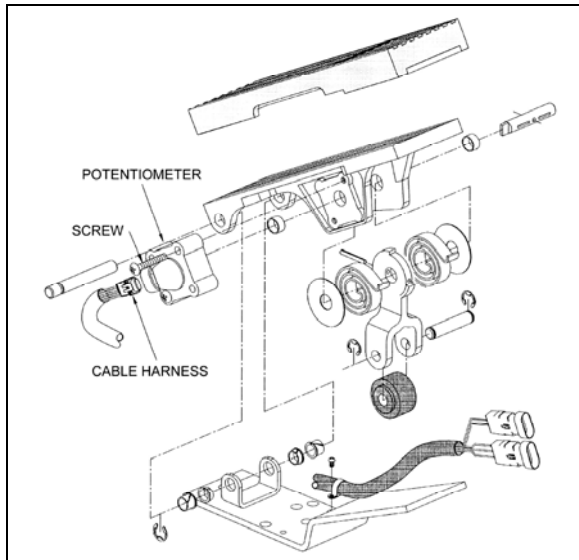

FIGURE 16: ELECTRONIC FOOT PEDAL ASSEMBLY 03035
3. Discard potentiometer (Figure 16).
4. Position new potentiometer. Press potentiometer onto the potentiometer shaft, matching cutouts in shaft to drive tangs of potentiometer. Apply hand pressure until potentiometer has bottomed out in housing. Reinstall screws (Figure 16) and tighten just enough to secure potentiometer lightly.